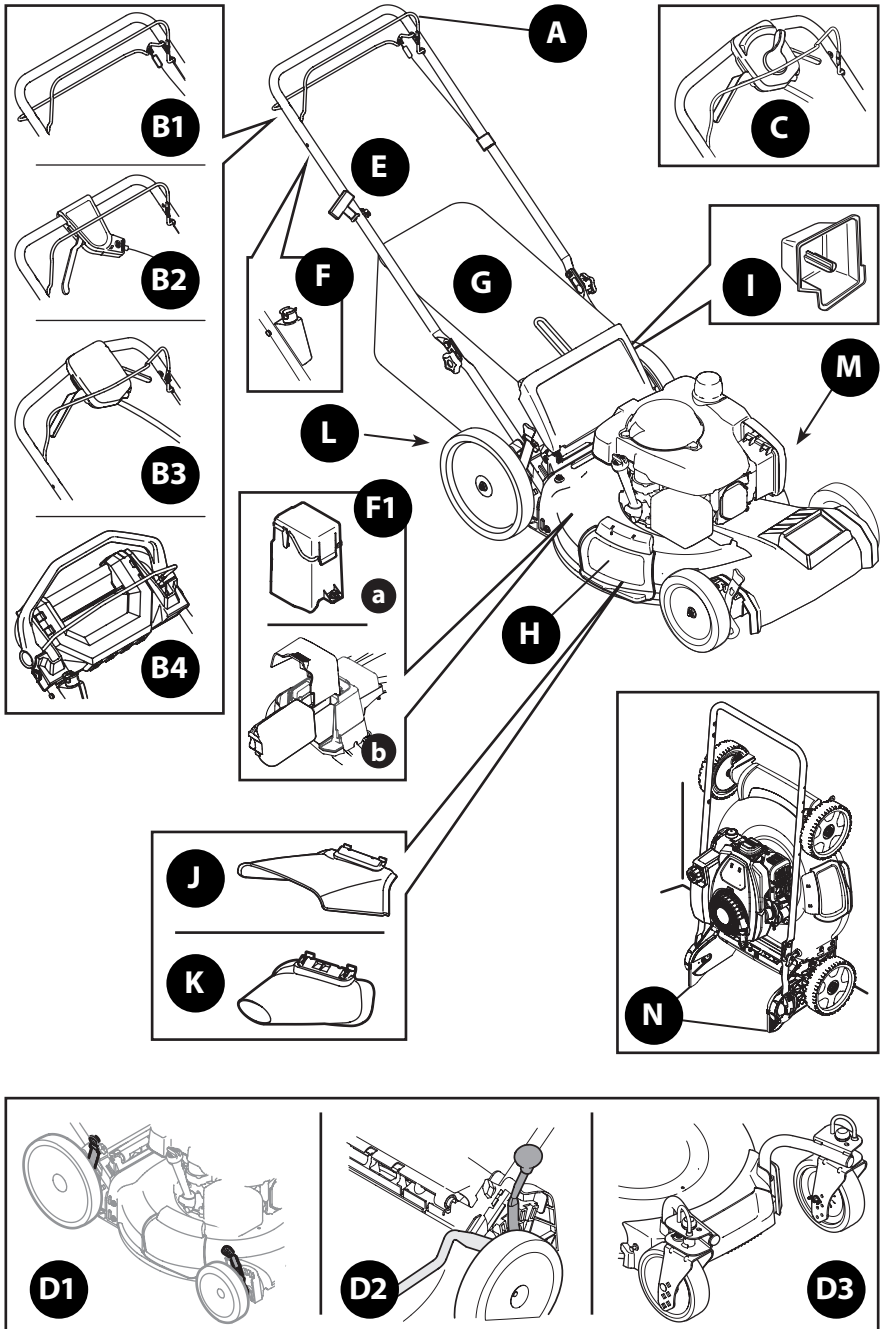

Figure 33
1. Mowers equipped with electric starters are also equipped with a battery in an enclosed battery box (a) or a removable battery pack (b) (Figure 33 on page 15).